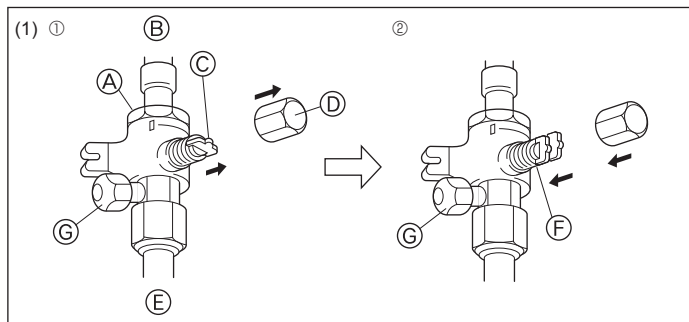
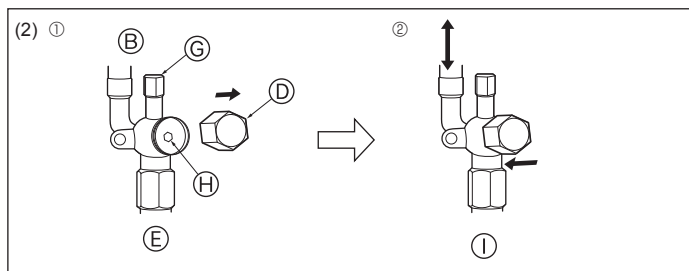

Fig. 4-12
Fig. 4-13
(1) Gas side (Fig. 4-12)
① Remove the cap, pull the handle toward you and rotate 1/4 turn in a counterclockwise direction to open.
② Make sure that the stop valve is open completely, push in the handle and rotate the cap back to its original position.
(2) Liquid side (Fig. 4-13)
① Remove the cap and turn the valve rod counterclockwise as far as it will go with the use of a 4 mm hexagonal wrench. Stop turning when it hits the stopper.